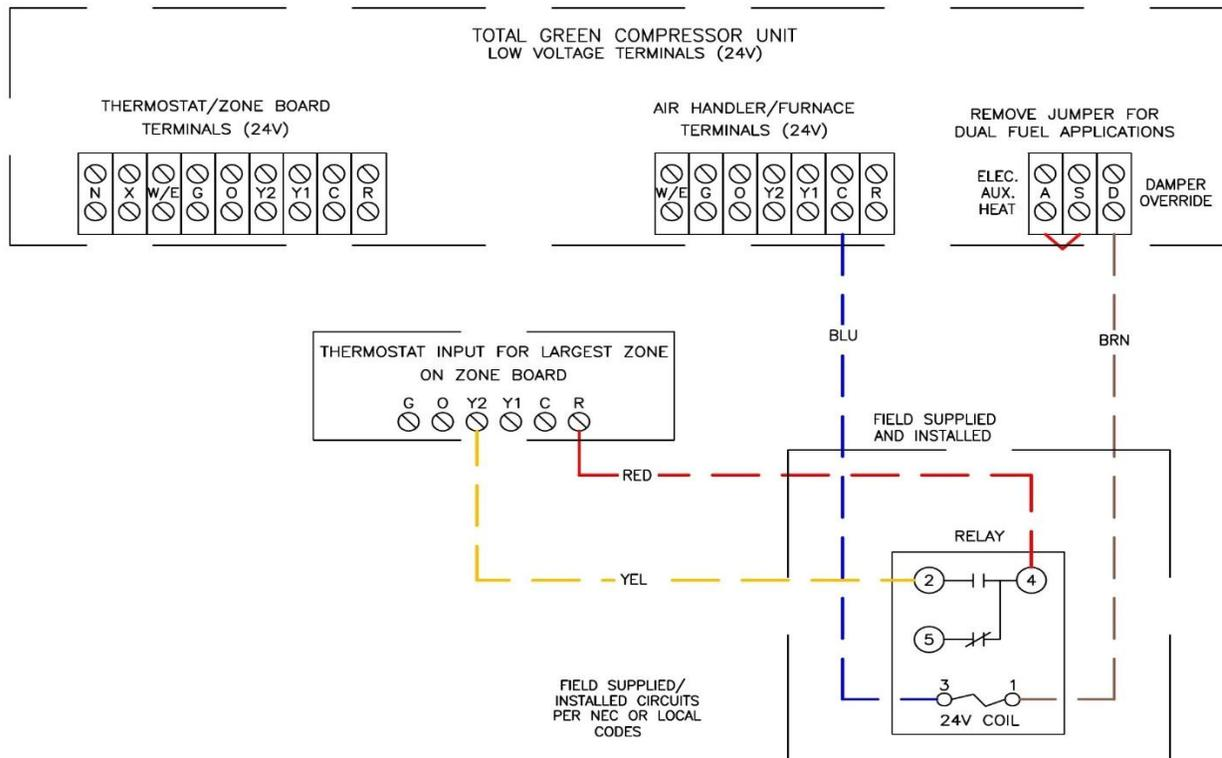

Figure 12. WG2AD and WG2AH Field Wiring Diagram with Damper override signal
5. In some incidences, sizing zones as stated above may not be possible leaving you with a small zone that may never call for second-stage nor support the required air flow for the “Maintenance Cycle”. For this reason, a 24 volt signal, referred to as “Damper Override”, is provided by the “D” terminal on WG2Ax units. Terminal “D” is only energized while the unit is in the “Maintenance Cycle”. This 24 volt signal can be used to force open the largest zone of the duct system while the equipment is in the “Maintenance Cycle”. Utilizing this option requires the installation of a field supplied SPDT relay with a 24 volt coil to isolate the zone board and air handler power supplies. The “D” terminal and relay provides a means of making the “R” and “Y” thermostat input of the zone board’s largest zone. When in the “Maintenance Cycle”, forcing that zone open relieves excessive static pressure at the air handler without the need of a bypass or dump zone. See Figure 12 for the Field Wiring Diagram for use with the damper override signal.